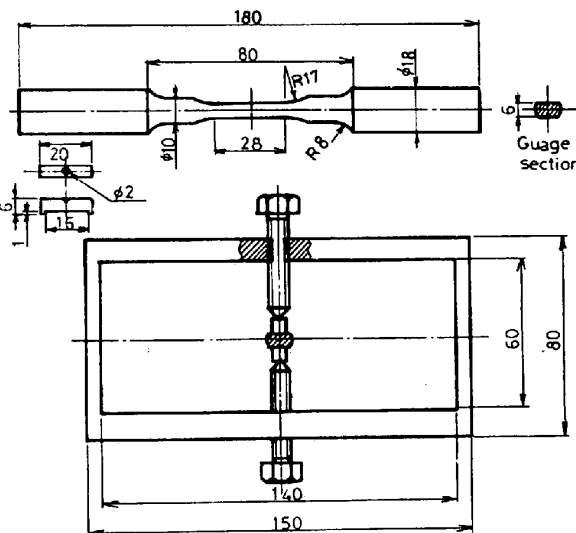

Fig.1. Specimen design and proving ring arrangement.
2. Investigation Procedures: The material being used is S45C steel in the as received condition. The specimen and fretting bridges configurations are shown in Fig.1. The fretting action is produced during the test by clamping the bridges to the specimen using a proving ring as shown. The tests are being done on an MTS servo-hydraulic testing machine. A 25mm gauge extensometer is used for strain control by attaching it to the rounded section of the specimen gauge length.